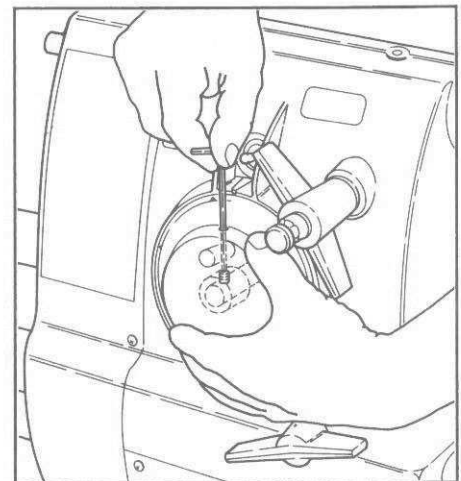

Figure 14. To remove the speed control handle, loosen the setscrew.
3. Remove the speed control handle. With the access hole in the side of the speed control handle facing up, insert a 3/32" Allen wrench in the hole and loosen the setscrew holding the handle to the worm control shaft. (See Figure 14.) Pull the handle free of the shaft.